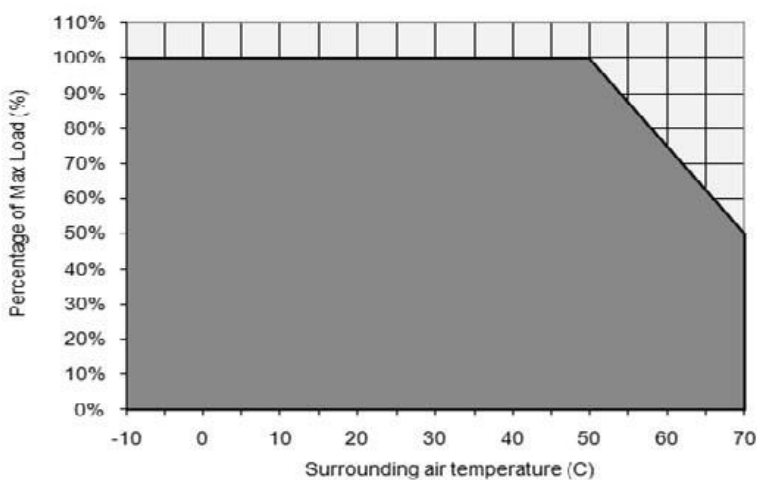

Fig. 1 De-rating for Vertical and Horizontal Mounting Orientation > 50°C de-rate power by 2.5% / °C
1. Power supply components may degrade, or be damaged, when the power supply is continuously used outside the shaded region, refer to the graph shown in Fig. 1.